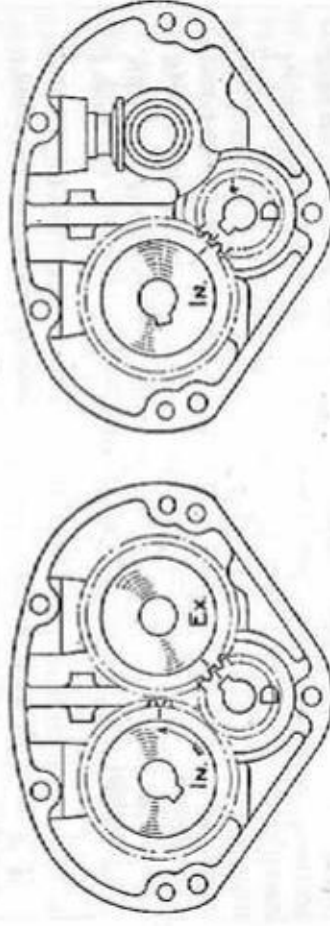

FIG. 65. HOW TO ALIGN THE TIMING GEAR MARKS
FIG. 64. MATCHLESS ENGINE WITH TIMING CASE AND ROCKER-BOX COVERS REMOVED, SHOWING TIMING GEARS AND TAPPET ADJUSTMENT. The correct alignment of the timing gears is shown in Fig. 65, and the procedure for adjusting the tappets is explained on page 91.
- (1) Turn the engine slowly until the line mark on the small engine pinion (shown at D in Fig. 65) is in line with the centre of the bush for the inlet camshaft. The bush concerned is the *rear* one.
- (2) Fit the inlet camshaft so that the line mark on the camwheel registers with the line mark on the small engine pinion D as shown in the right-hand illustration.
- (3) Turn the engine slowly *forward* until the line mark on the small engine pinion D is in line with the centre of the bush for the exhaust camshaft (the front bush).
- (4) Fit the exhaust camshaft so that the line mark on the camwheel registers with the line mark on the engine pinion as shown in the left-hand illustration.